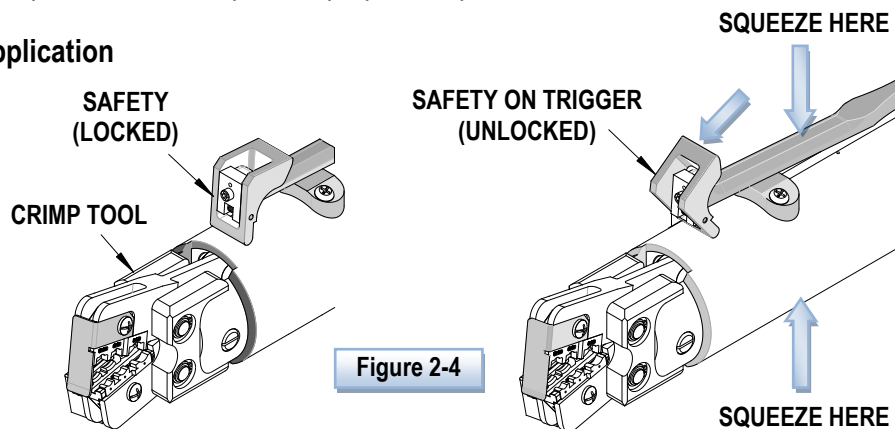

Figure 2-4
4. Activate the AT-200 Crimp Tool by sliding the safety on the trigger forward using your thumb and then squeezing the trigger until the crimp jaws are fully closed. See Figure 2-4.